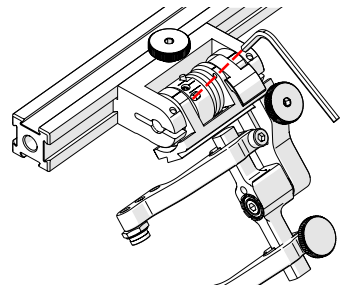

Fig. 114 - Unlatched position
3. Insert the short arm of a 3 mm hex wrench into the 3 mm slot (Fig. 114).